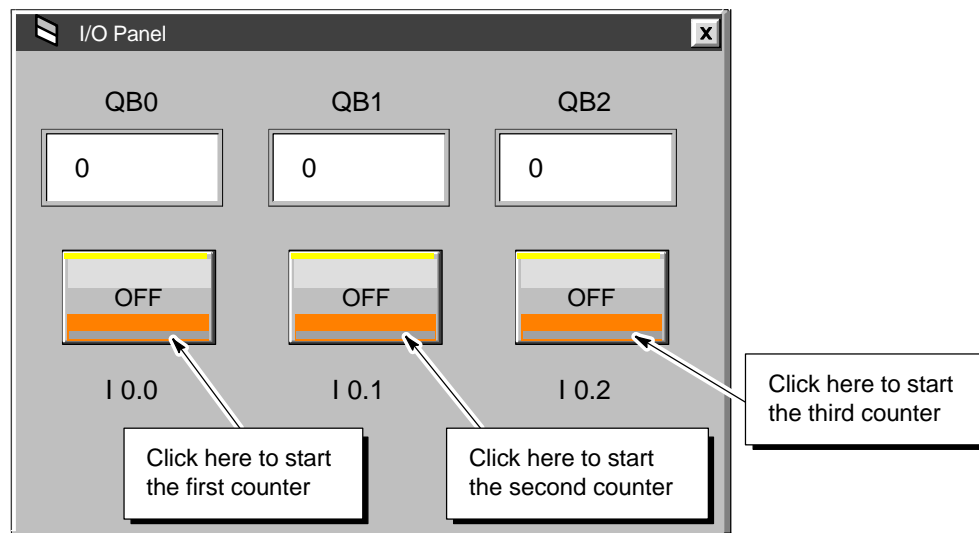

Figure 1-11 Operating the Sample I/O Panel
3. Click on the Button Control for I 0.0 to start the first counter. See Figure 1-11.
4. Click on the Button control for I 0.1 to start the second counter. See Figure 1-11.
5. Click on the Button control for I 0.2 to start the third counter. See Figure 1-11.